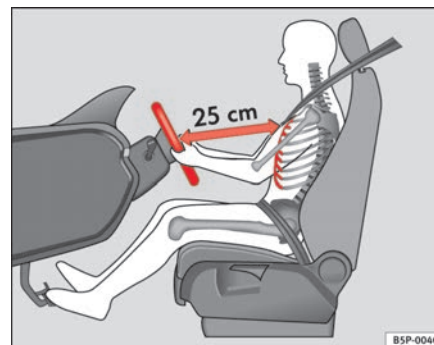

Fig. 98 Proper sitting position for driver
- Adjust the steering wheel in this way until the correct position is set ⇒ fig. 98.
- Adjust the driver seat or steering wheel so that there is a distance of at least 25 cm between the steering wheel and your breast bone ⇒ page 130, fig. 98. If you fail to observe the minimum distance, the airbag will not protect you. Risk of fatal injury.